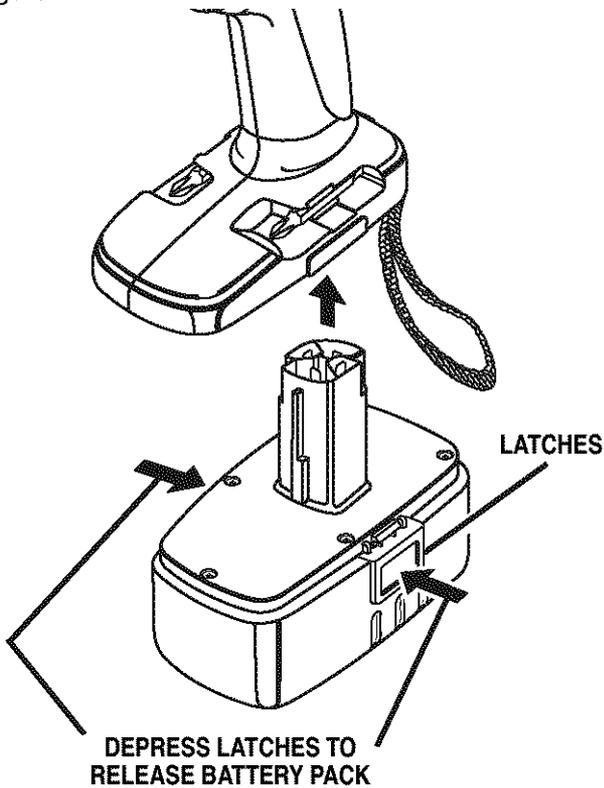

Fig. 7
- Place the battery pack in the drill. Align the raised rib on the battery pack with the groove inside the drill. See Figure 7.
- Locate the latches on the side of the battery pack and depress to release the battery pack from the drill. See Figure 7.